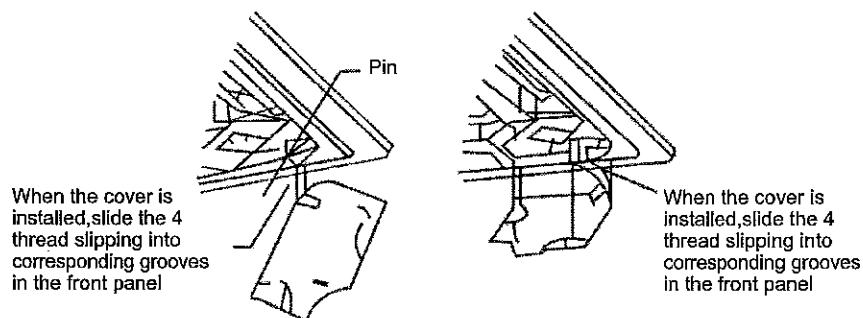

Figure 17
- To tight up the rope of installation cover plate onto the pin of installation cover plate with screws (see left side in Figure 17);
- Slightly press the installation cover plate into front panel (see Figure 17);